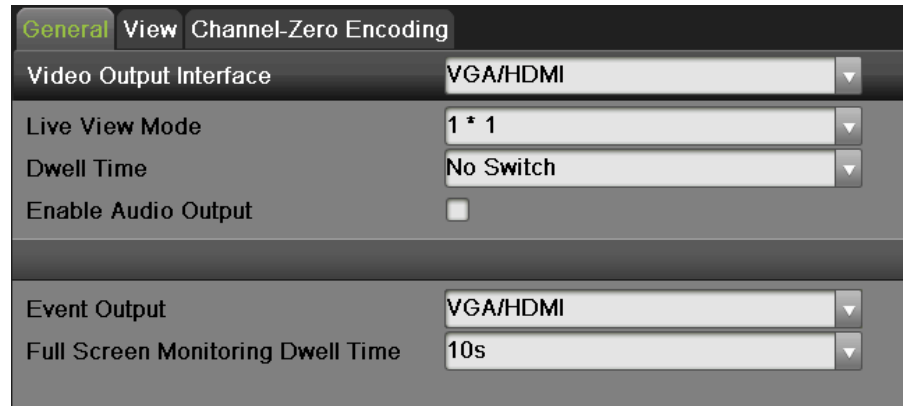

Figure 68 Live View Menu
1. Enter the Live View menu, shown in **Figure 68** by going to Menu > System Configuration > Live View.